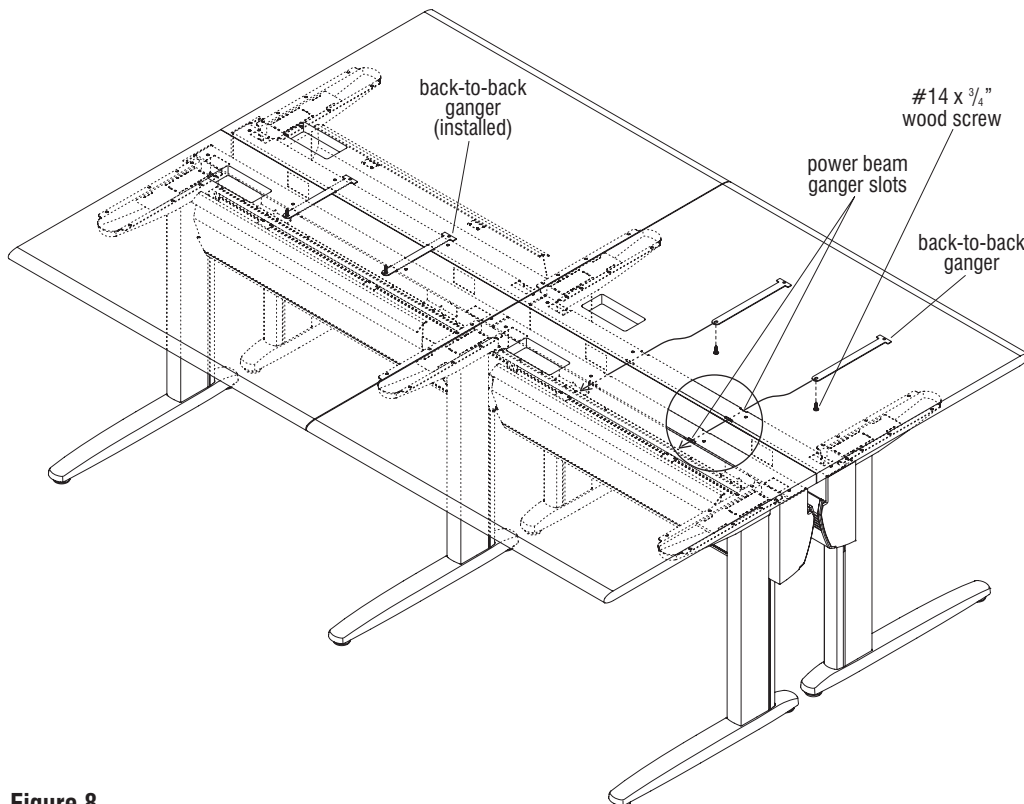

Figure 8
10. Locate the power beam ganger slots which are located along the top, where the beam meets the worksurface. Slide the back-to-back gangers through the slots of the first beam and through the slots of the second, back-to-back beam. Align the mounting slot of the back-to-back ganger with the pre-drilled hole under the second worksurface. Secure each ganger to the worksurface with #14 x $\frac{3}{4}$ " wood screw. Repeat the above procedure with all back-to-back worksurfaces (Figure 8).